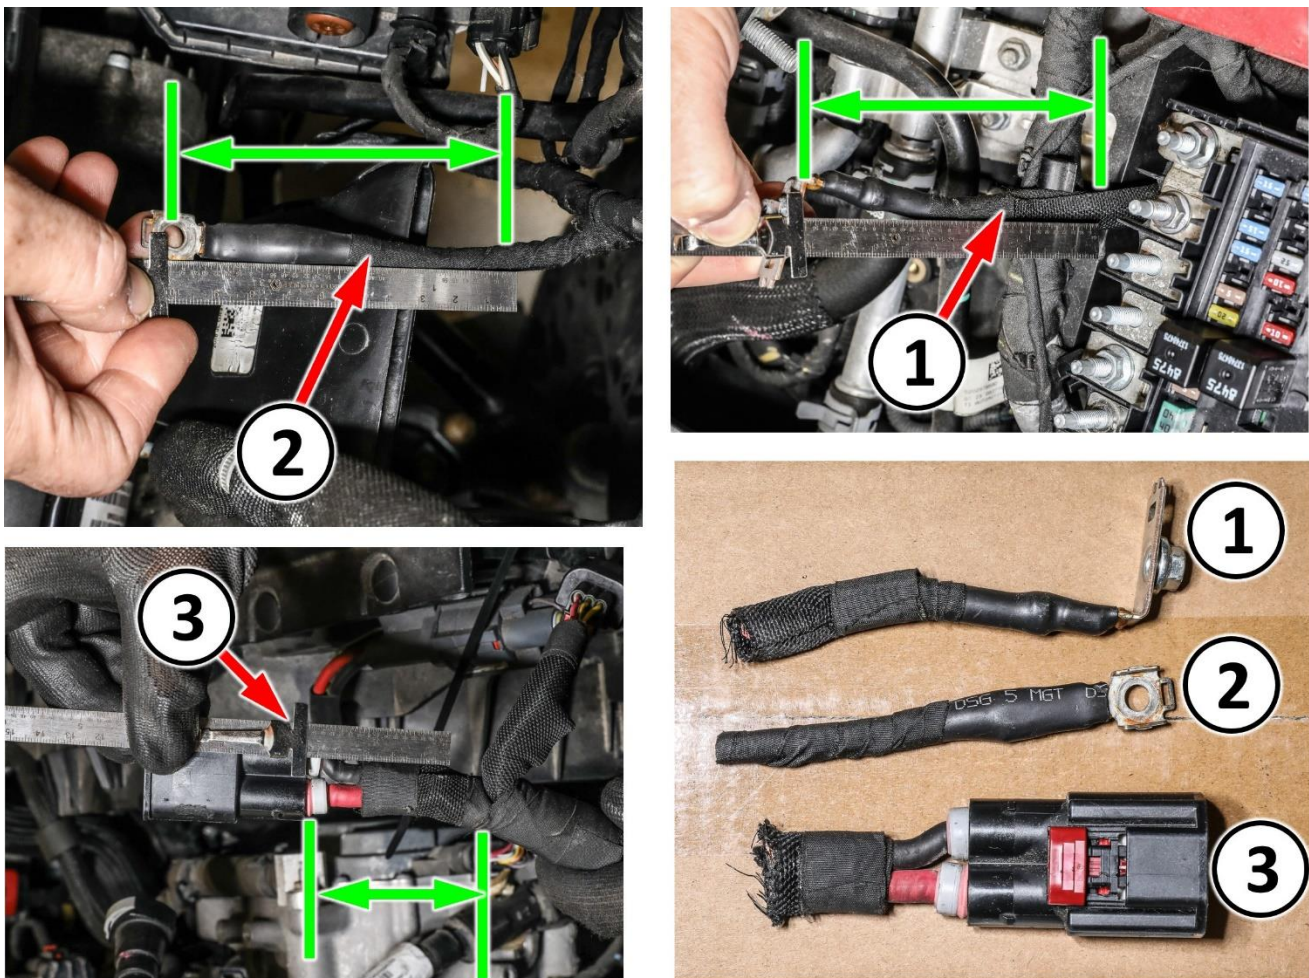

Figure A12 – Remove EHPS Wire Harness Terminals
37. After verification, cut EHPS power supply eyelet D6630J approximately 4 inches behind eyelet 90-degree bend and set aside for return **with pump** (Figure A12).
38. After verification, cut ground eyelet G908A approximately 4 inches behind center of eyelet hole and set aside for return **with pump** (Figure A12).
39. Cut 2way EHPS connector D2704A approximately 2 inches behind connector body taking special care not to cut through 3way connector D2704B circuits. Set aside for return **with pump** (Figure A12).